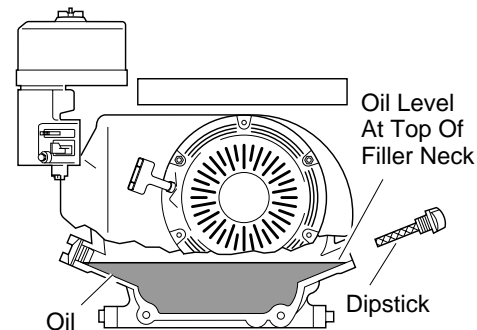

Figure 7 - Checking Oil Level (Model MGH4000D Shown)
1. Remove dipstick (see Figure 7). Wipe dipstick clean.
3. If level is low, fill to top of oil filler neck (see Figure 7). For Model MGH10000A only, fill to top dot on dipstick. Only use oil recommended in engine owner's manual.